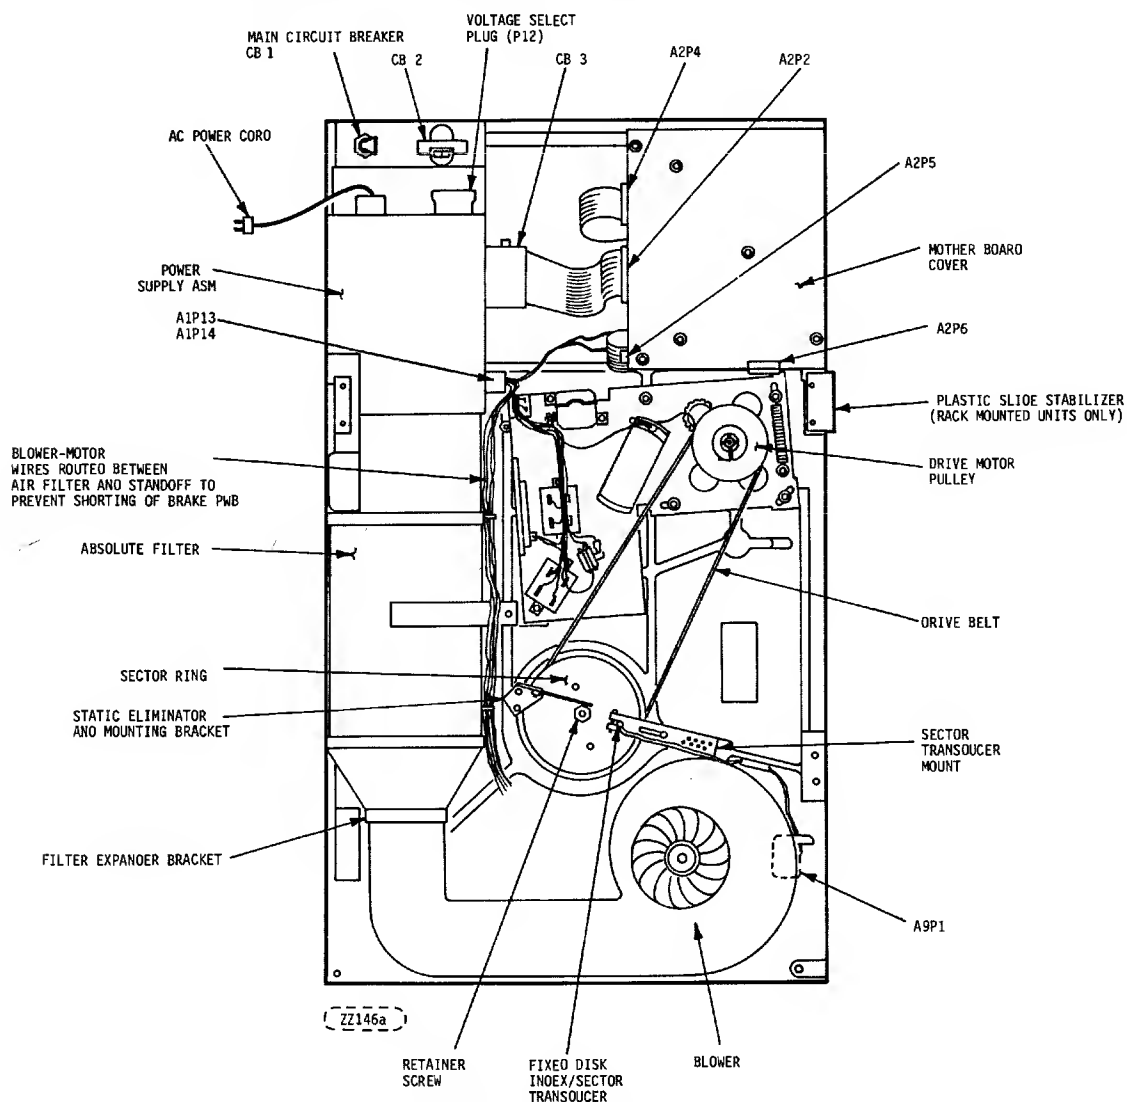

FIGURE 6-11. MODULE LOCATOR (BELOW DECK)
21. Remove spindle drive belt (Figure 6-11), by applying pressure to edge of drive-motor plate near A7TB1.
6. Install spindle drive belt (Figure 6-11) by applying pressure to edge of drive motor plate near A7TB1.
7. Remove static eliminator (Figure 6-11) by removing one screw.
9. Remove retainer screw (Figure 6-11).
5. Remove transducer assembly mount (see Figure 6-11) by removing one screw (note orientation of sector option).
6. Remove static eliminator and its mounting bracket (see Figure 6-11).
7. Remove sector ring (see Figure 6-11) by removing two screws.